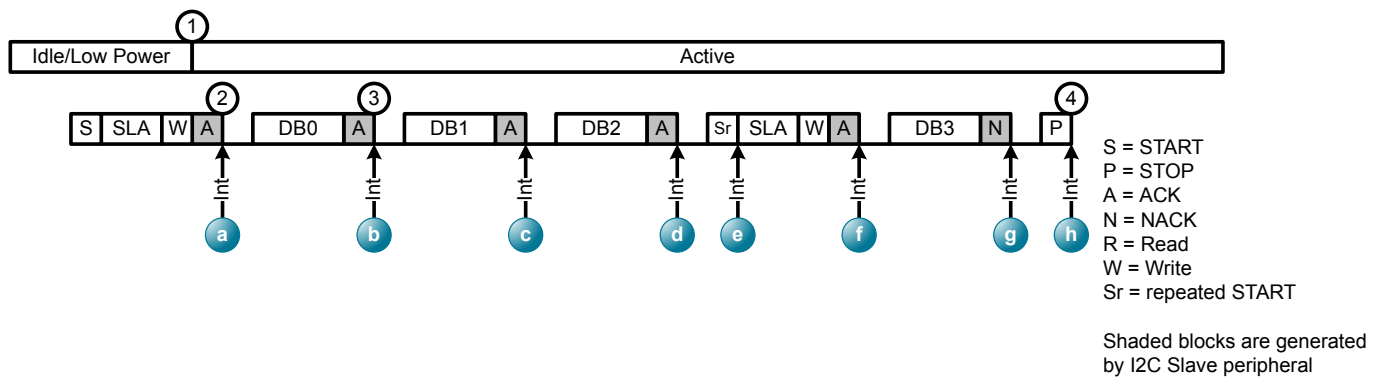
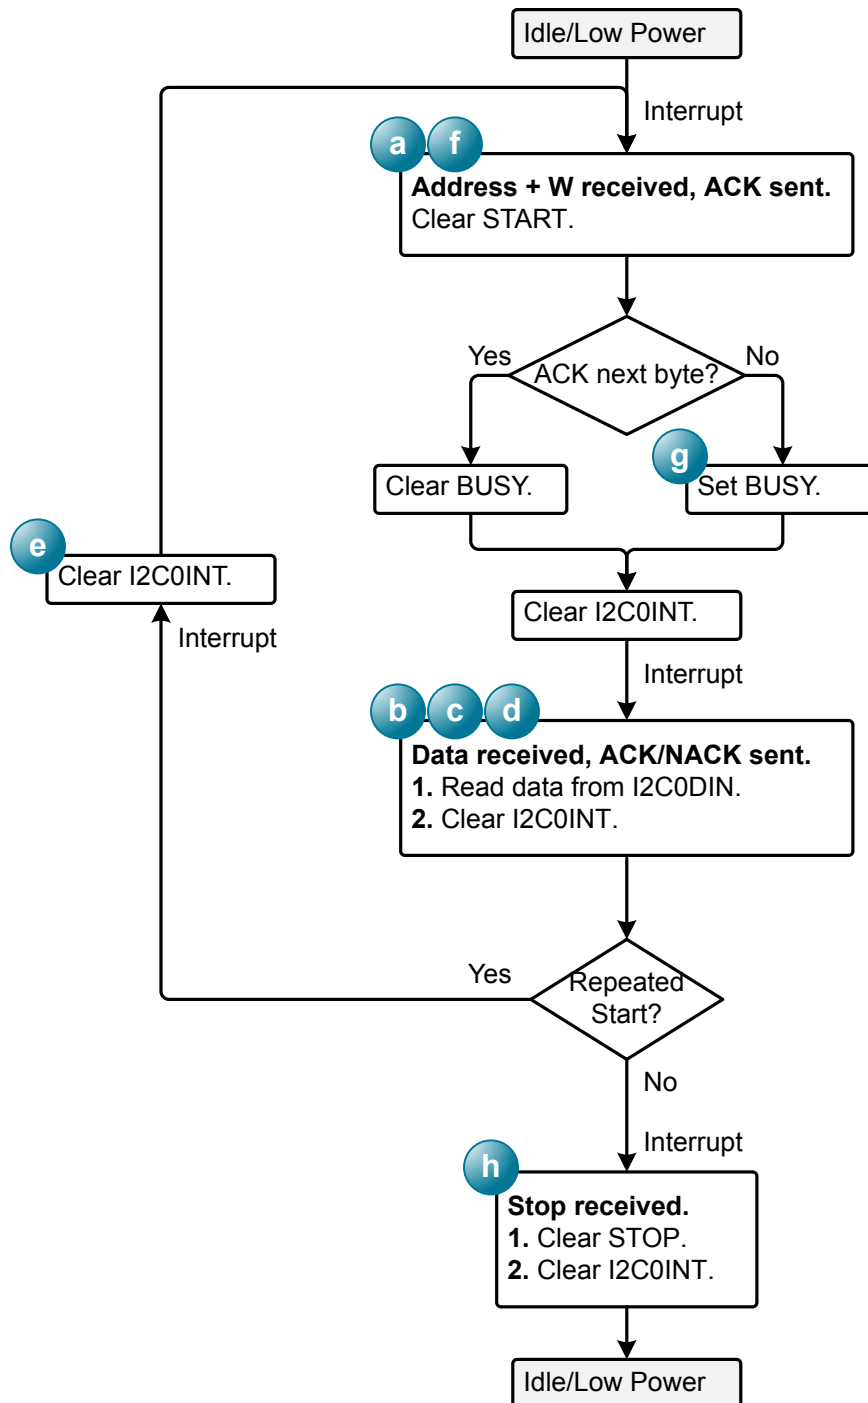

Figure 15.5. Example I2C Write Sequence with the I2C Slave Peripheral
Figure 15.6. I2C Write Flow Diagram with the I2C Slave Peripheral
2. An interrupt occurs after the automatic ACK of the address. The I2C peripheral holds the SCL line low for clock stretching until firmware clears I2C0INT. Firmware should take the actions indicated by Figure 15.6 I2C Write Flow Diagram with the I2C Slave Peripheral on page 166.
Figure 15.5 Example I2C Write Sequence with the I2C Slave Peripheral on page 165 demonstrates an example sequence, including a repeated start, and Figure 15.6 I2C Write Flow Diagram with the I2C Slave Peripheral on page 166 describes the I2C Write sequence and firmware actions in each interrupt.
Note: Firmware can leave the BUSY bit as 0 in step F in the Figure 15.5 Example I2C Write Sequence with the I2C Slave Peripheral on page 165 sequence. In this case, the master will receive an ACK instead at step G could still generate a STOP bit immediately after the ACK.